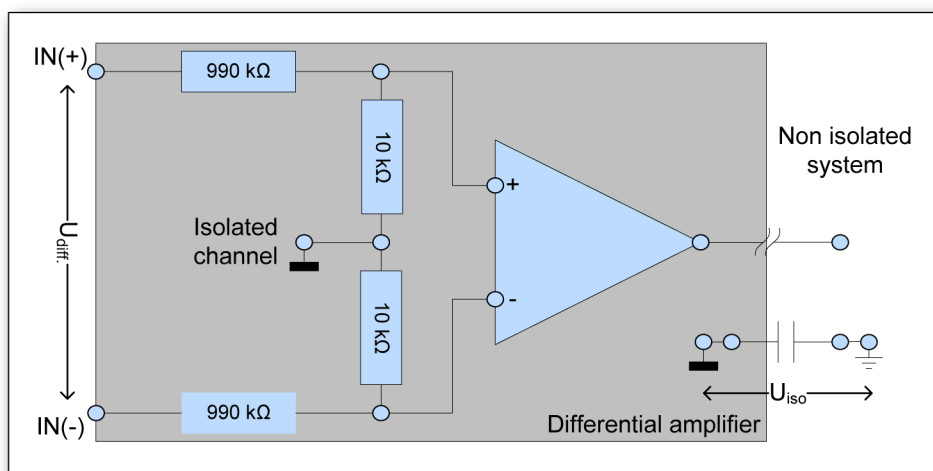
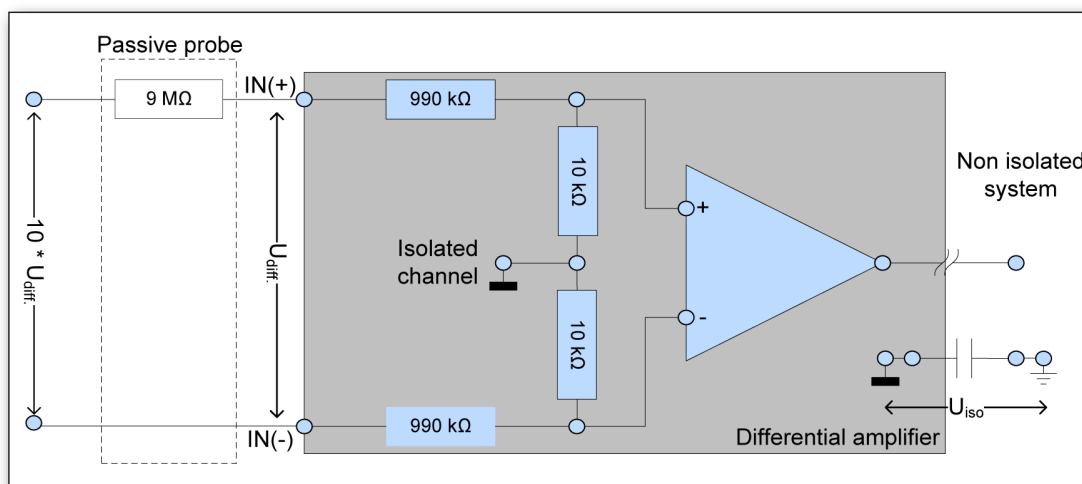

Figure 12.5: Isolated balanced input channel
Figure 12.6: Isolated balanced input channel with passive probe
- The isolated ground is not externally accessible as shown in Figure 12.5.
Looking at Figure 12.5 the GN610 specifies $U_{IN(+)}$, $U_{IN(-)}$ and $|U_{iso}| \leq 1$ kV. Using a standard passive 10:1 probe in combination with the GN610 gives the situation as shown in Figure 12.6.